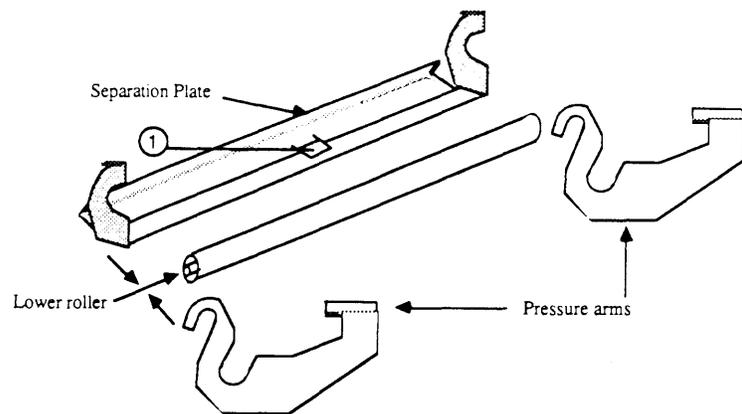

FIGURE 2-29
1. Make sure the small plastic bushings are in place at each end of the lower roller, with the flange end toward the roller. Place the two metal pressure arms (one at each end) on the bushings, in the direction shown in Figure 2-29.
2. Hook the separation plate onto the bushing shaft at each end of the lower roller, in the position shown in Figure 2-29.
- c) Insert the tab on the back of the separation plate (Figure 2-29, #1) into the slot in the center of the fuser assembly plate (between the central black rollers).